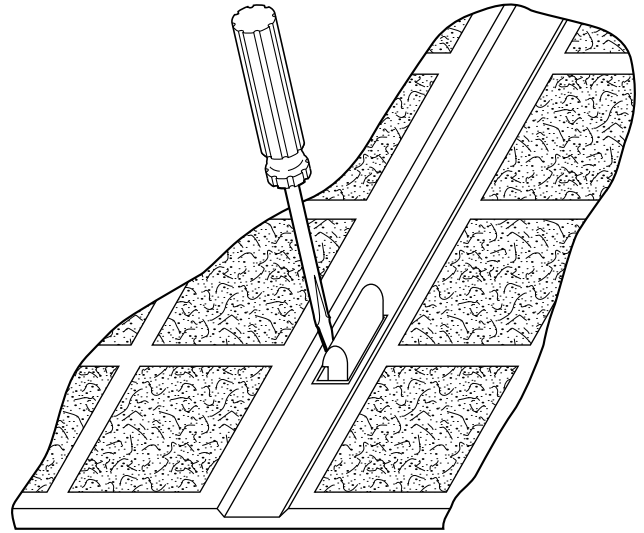

Fig. 3—Location of Snaps
3. Place filter(s) on a flat surface. Using a straight edged screwdriver, apply pressure to tab area to ensure snapping tabs are properly locked in place. (See Fig. 3.)